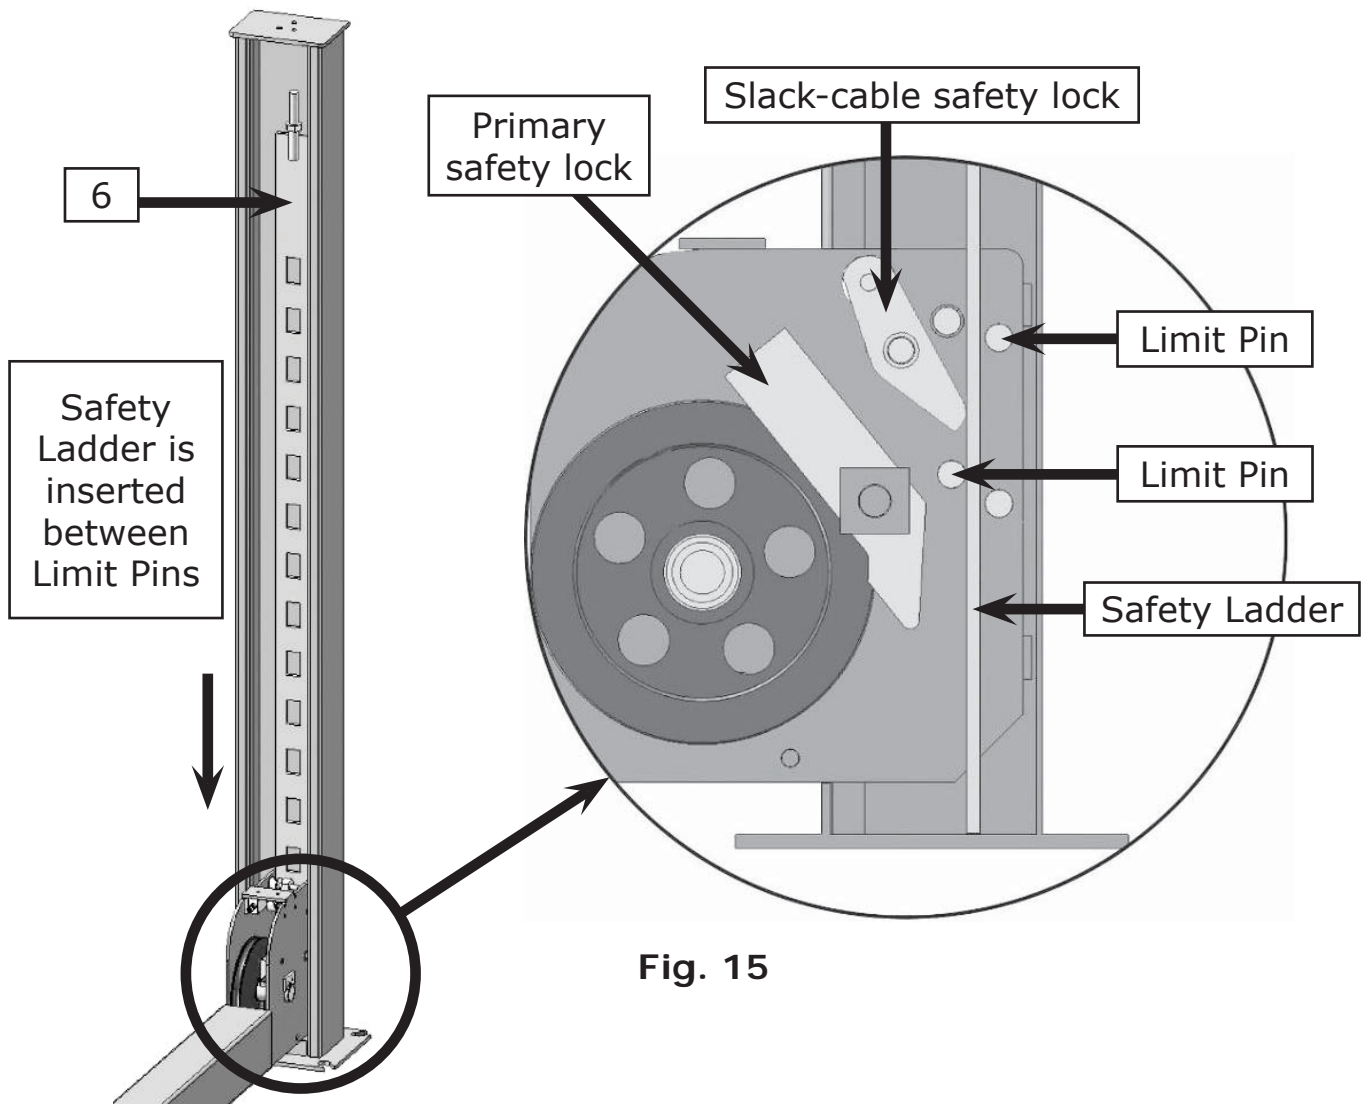

Fig. 15
1. Take off the pulley safety cover and unscrew the four upper nuts on the Safety Ladders, and then adjust the four lower nuts so they are at the same level. Pull back on the cable safety lock on the Cross-beam to insert the Safety Lock Ladder in, raise the Safety Ladder, and thread the upper nuts. (See Fig. 15).